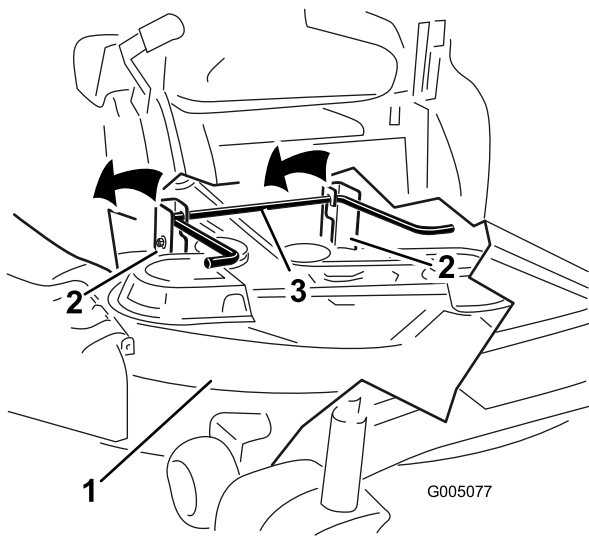

Figure 72
1. Deck-lift spring (2)
7. Lift the mower deck and hanger brackets clear of the rear lift rod and lower the mower carefully to the ground (Figure 72).
5. Lift the rear of the mower deck and guide the hanger brackets over the rear lift rod (Figure 72).